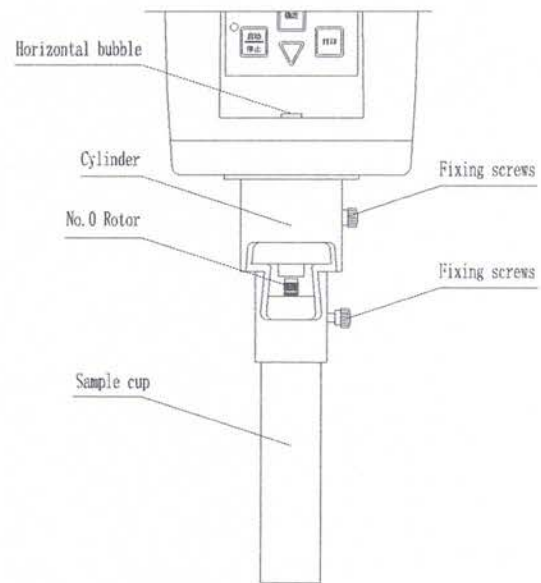

Fig. 7
5) Slowly insert the test tube containing the sample into the fixing sleeve from the bottom to the top, and tighten it with the test tube fixing screw. When tightening, pay attention to the tapered end of the test tube fixing screw to turn into the triangular groove on the upper end of the outer wall of the test cylinder. All installed No. 0 rotor parts are shown in Fig. 7. Control the temperature of the liquid to be tested, and adjust the level of the instrument to test.